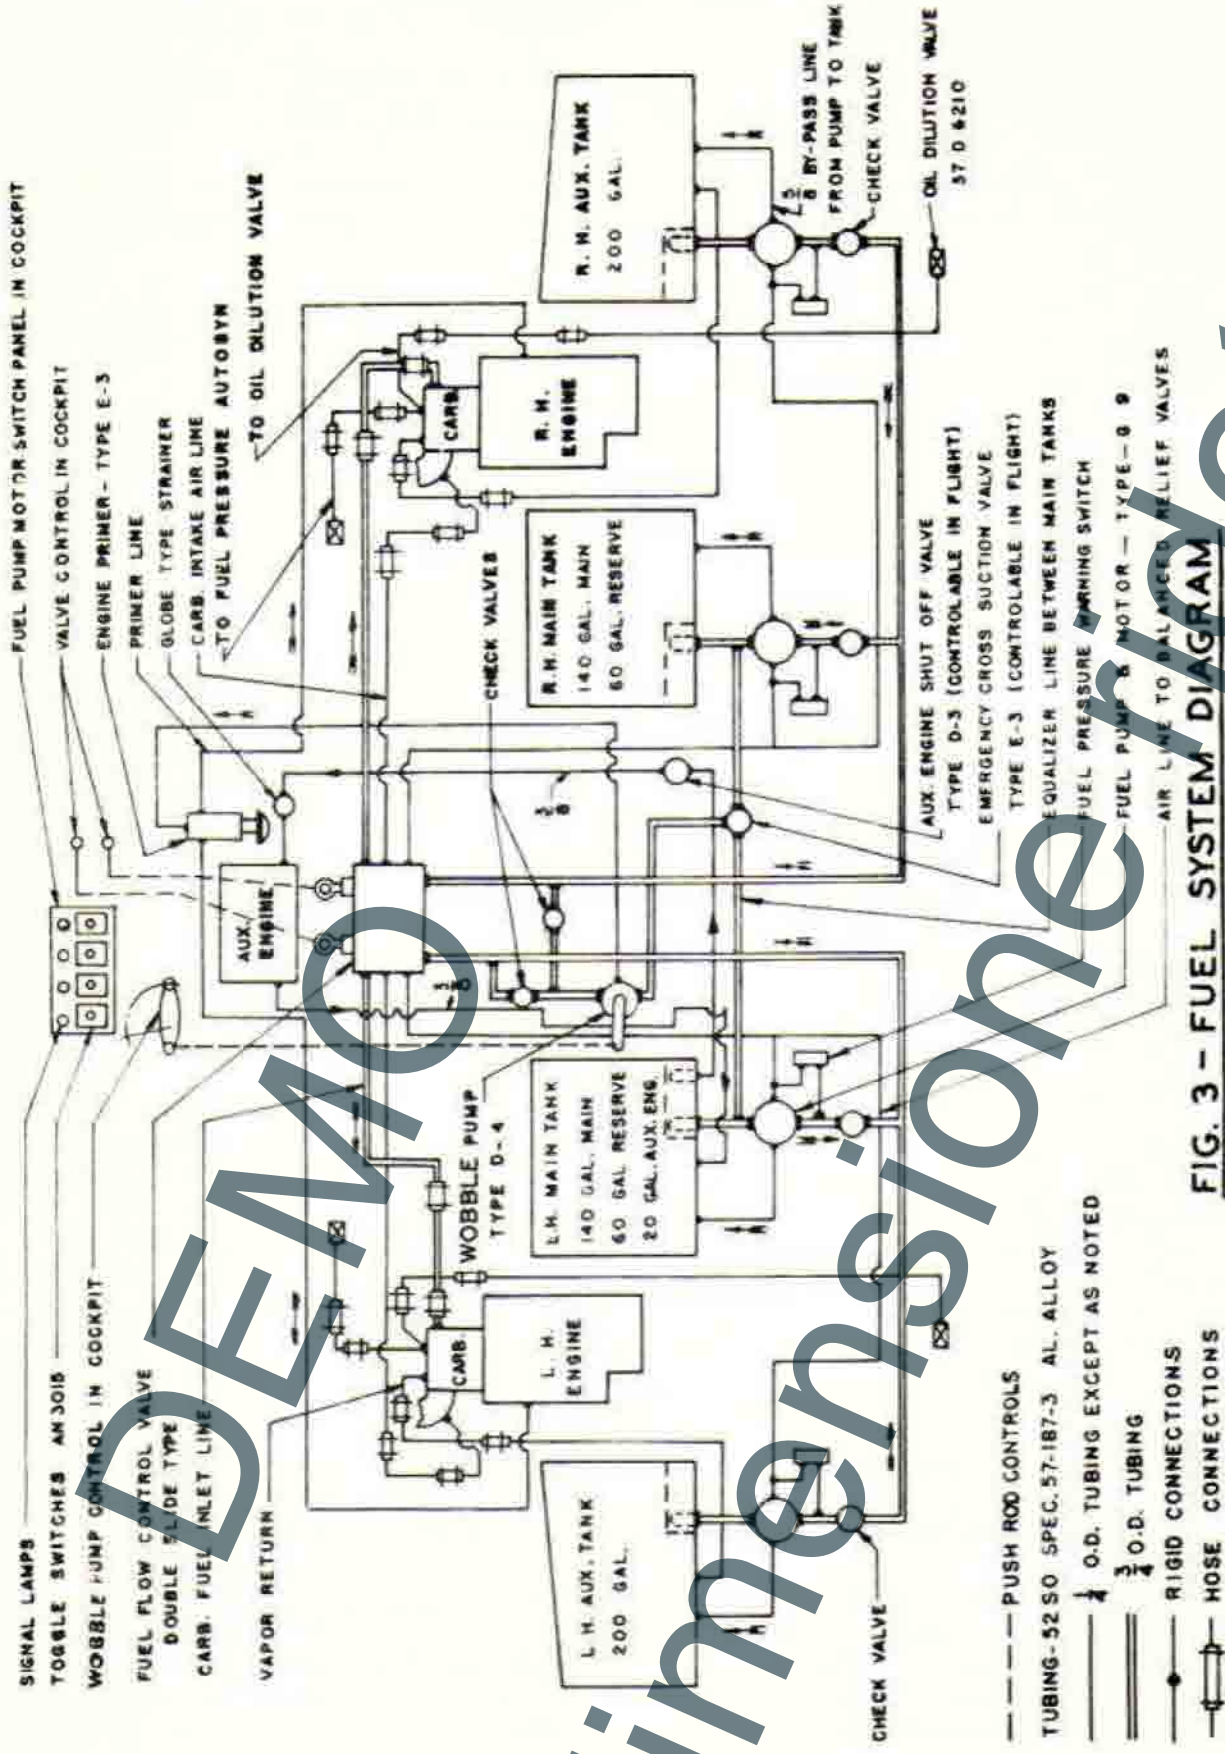

FIG. 3 - FUEL SYSTEM DIAGRAM
- e. Fuel System. - Fuel is carried in four tanks with a capacity of 200 gallons each. The two main tanks are on either side of fuselage in the center section of the wing and the auxiliary tanks in the outer panels, outboard of each nacelle. A stand pipe in the left hand main fuel tank insures 20 gallons of fuel for the auxiliary engine. This fuel is in addition to the normal supply and does not register on the fuel level indicator as it is not available for operation of the main engines. See Fuel System Diagram, Figure 3.
- c. Fuselage Equipment. - (1) Pilot's Seat: The pilot's seat has a lever on the right side to permit vertical adjustment. The seat back cushion is the pilot's life preserver.